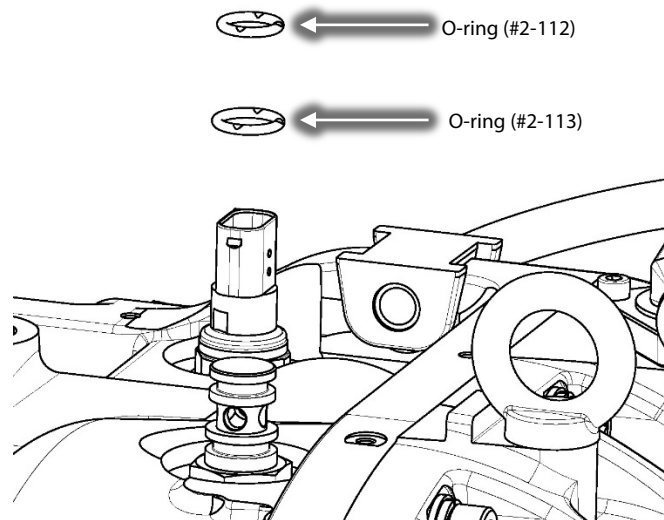

Figure 25 –SCR Manifold Return Brass Fitting O-ring Install
- Install two (2) new O-rings on the SCR Manifold Return Brass Fitting (#2-112 and #2-113, smaller one on top). Apply O-lube to each O-ring before installation. Refer to Figure 25 (SCR Manifold Return Brass Fitting O-ring Install).